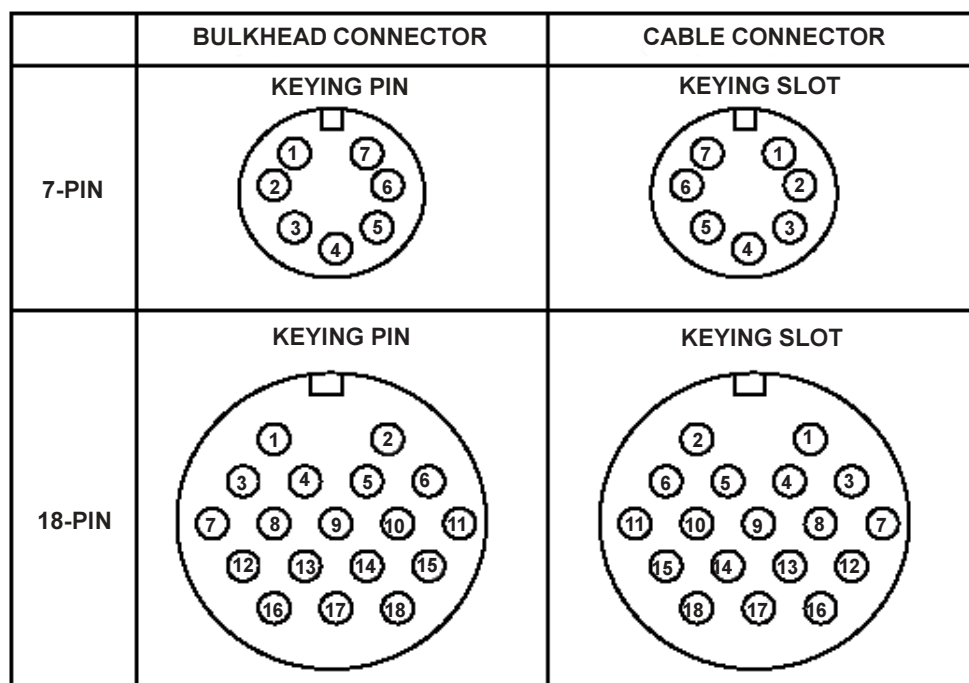

Figure A3 - Circular connector pin designators
11.1 For a weather-resistant aluminum enclosure for **DATAFLOW RTU**, purchase it in a small (S) enclosure option. This option also provides bulkhead circular connectors and one UHF antenna port. See Figure A3 for pin number designations of the circular connectors.